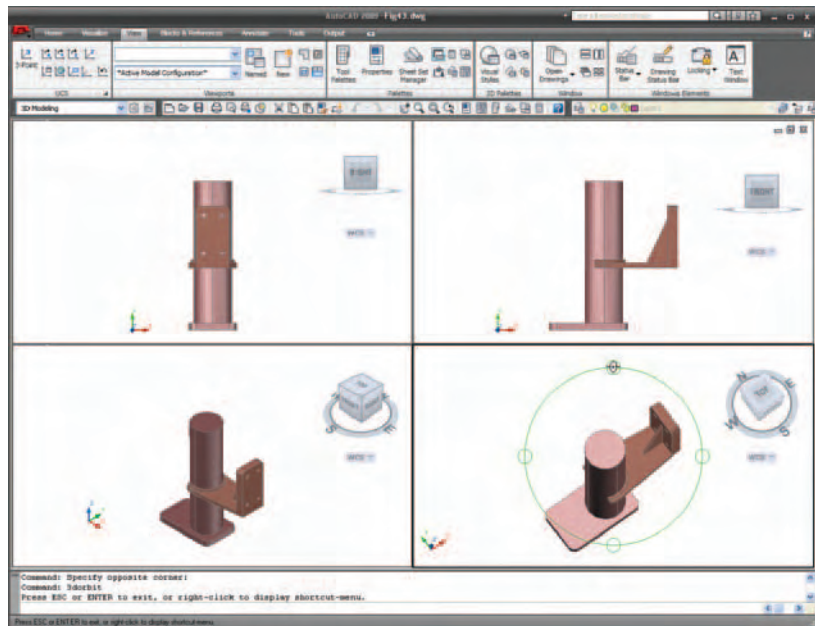

Fig. 15.43 Example – 3dorbit in a **Four: Equal** viewport layout
7. Fit the 3D model into a **Four: Equal** viewports setting. Note the **Realistic** visual style still shows in each of the four viewports and that the **3dorbit** tool can still be used as shown in the bottom-right-hand viewport (Fig. 15.43).